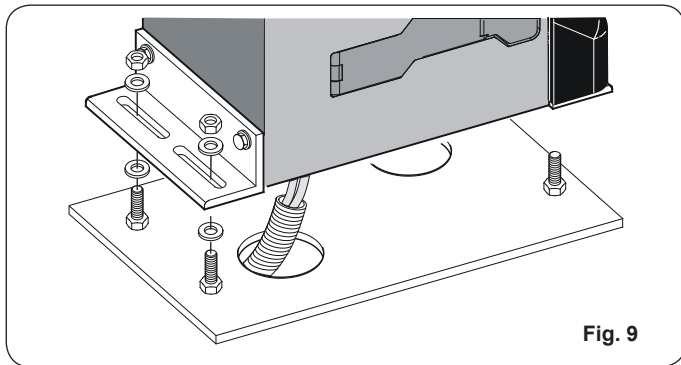

Fig. 9
3. Attach the operator to the plate, using the supplied washers and nuts as shown in Fig. 9.